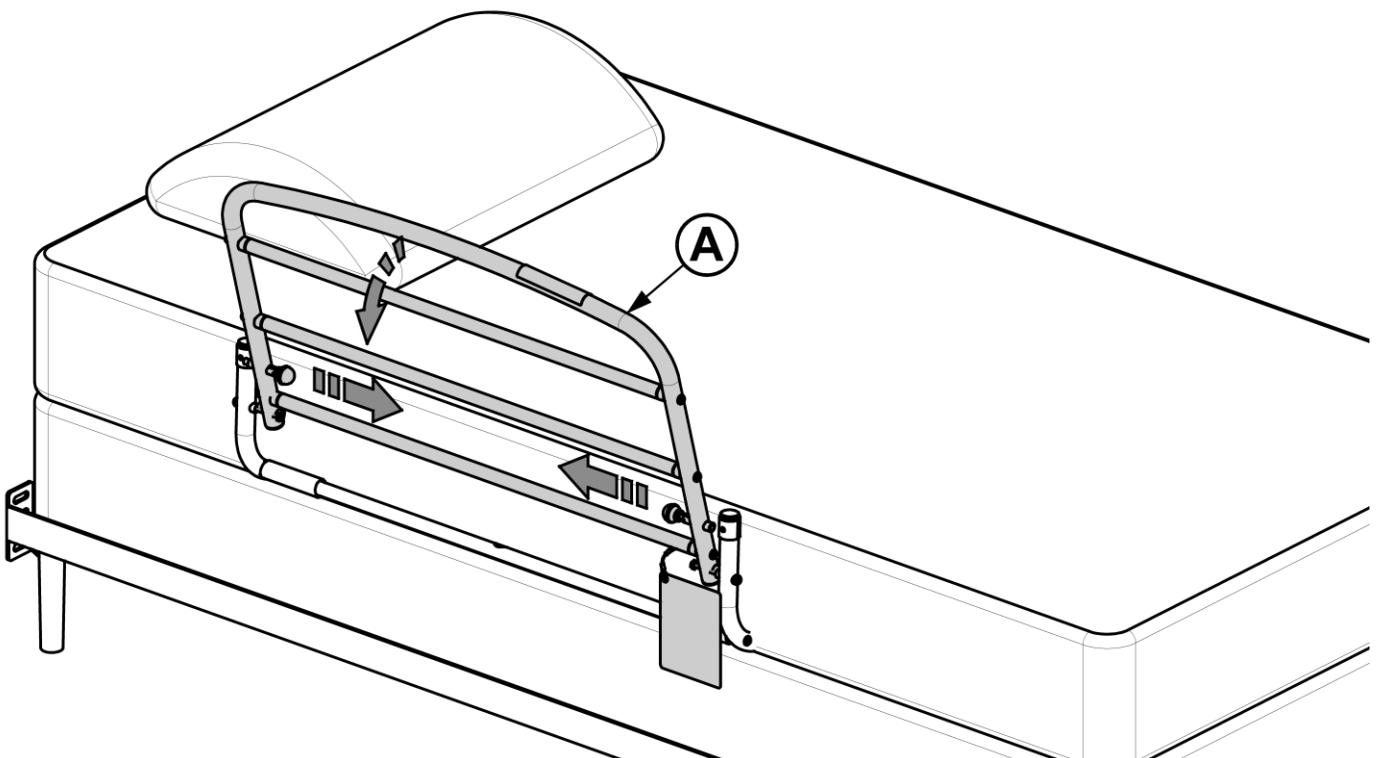

FIGURE 5
- To lower Bed Rail: Pull both **KNOBS** inward, then rotate Bed Rail **A** down as shown in *FIGURE 5*.